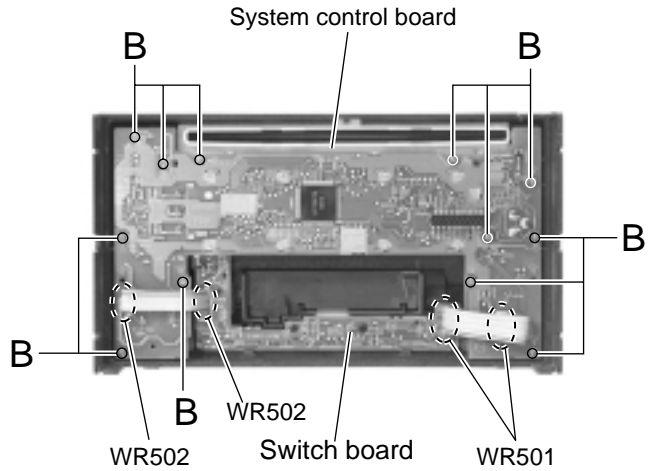

Fig.4
■ **Removing the system control board / switch board (See Fig.4 , 5)**